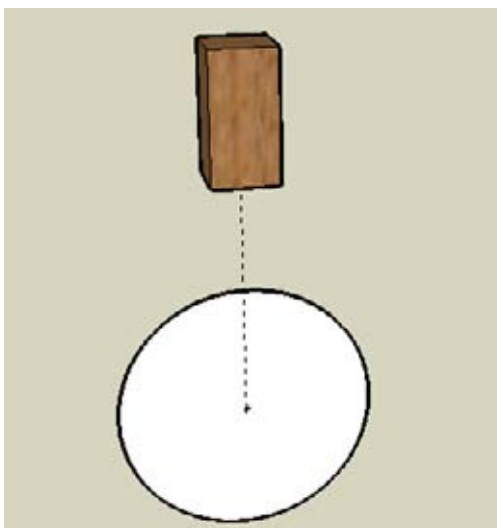

Figure 4-34
4. Draw a vertical circle centered on the construction line endpoint (Figure 4-34).